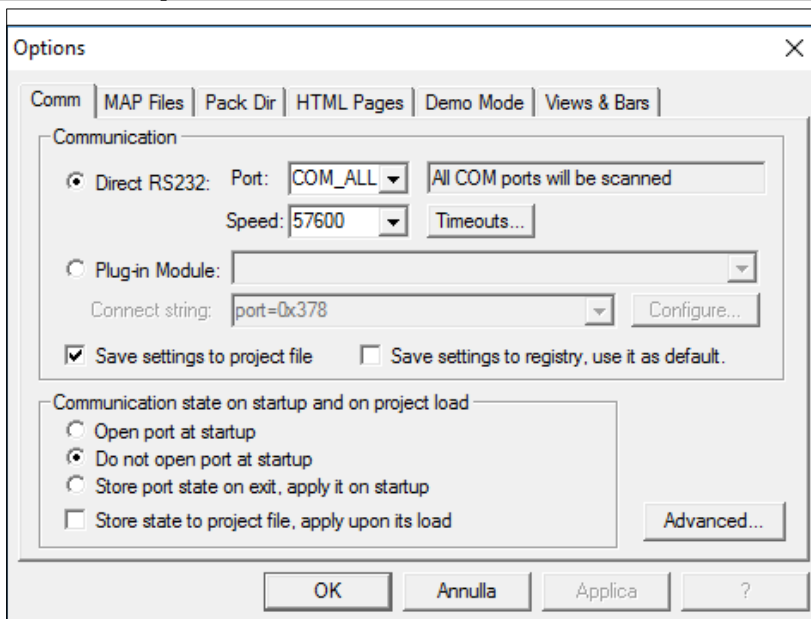

Figure 46: Window "Options"
- Set the values as in the figure 46.